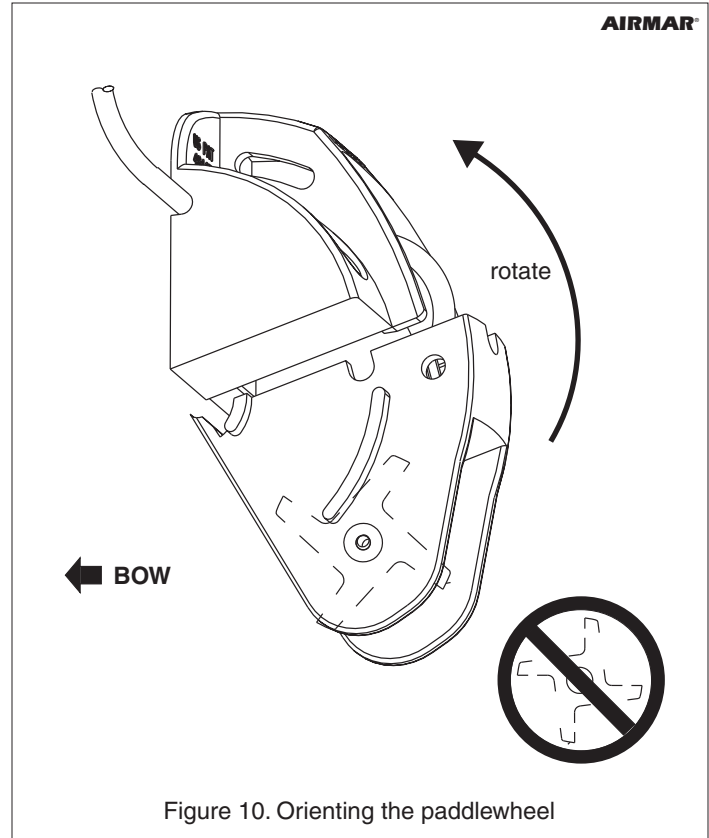

Figure 10. Orienting the paddlewheel
**Note:** If the adjustable paddlewheel assembly separates from the bracket, refer to Figure 10 on page 4 to reassemble.
Orient the short side of the paddlewheel blades as shown in Figure 10. Slide the shaft through the holes in the adjustable paddlewheel assembly and the paddlewheel. *Be sure* the ends of the shaft are flush with the housing.